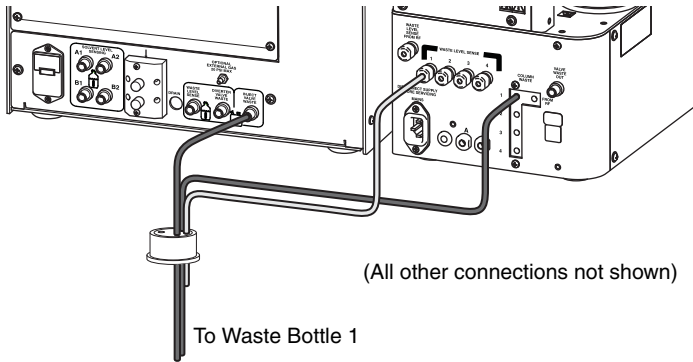

Figure 4-6 Channel 1 waste tubing connections
5. Select one of the four waste line assemblies (PN 60-5234-188) from the accessory package. This will be used to complete the waste connections for channel 1 as shown in Figure 4-6.
- f. At the waste container cap for channel 1, insert the black tubing from the Inject Valve Waste port. The completed waste connections for Channel 1 are shown in Figure 4-6.